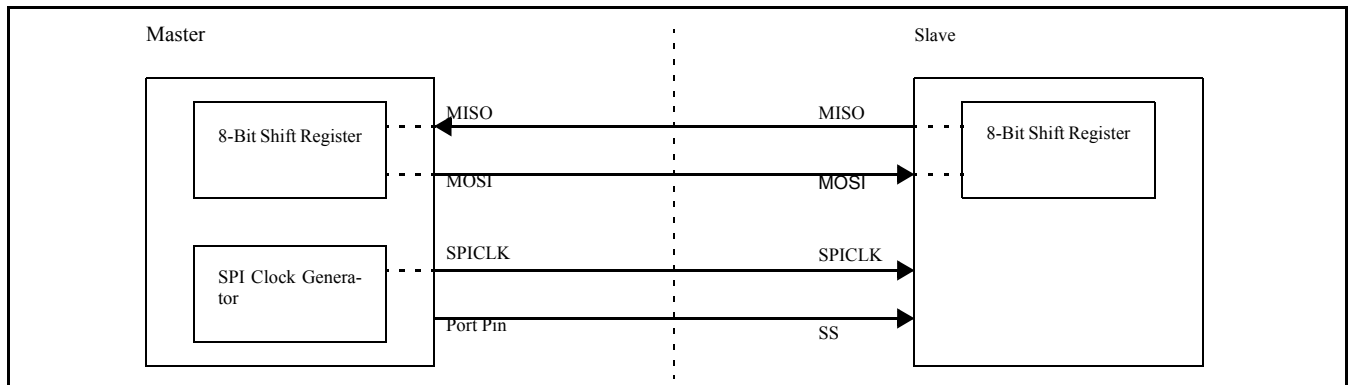
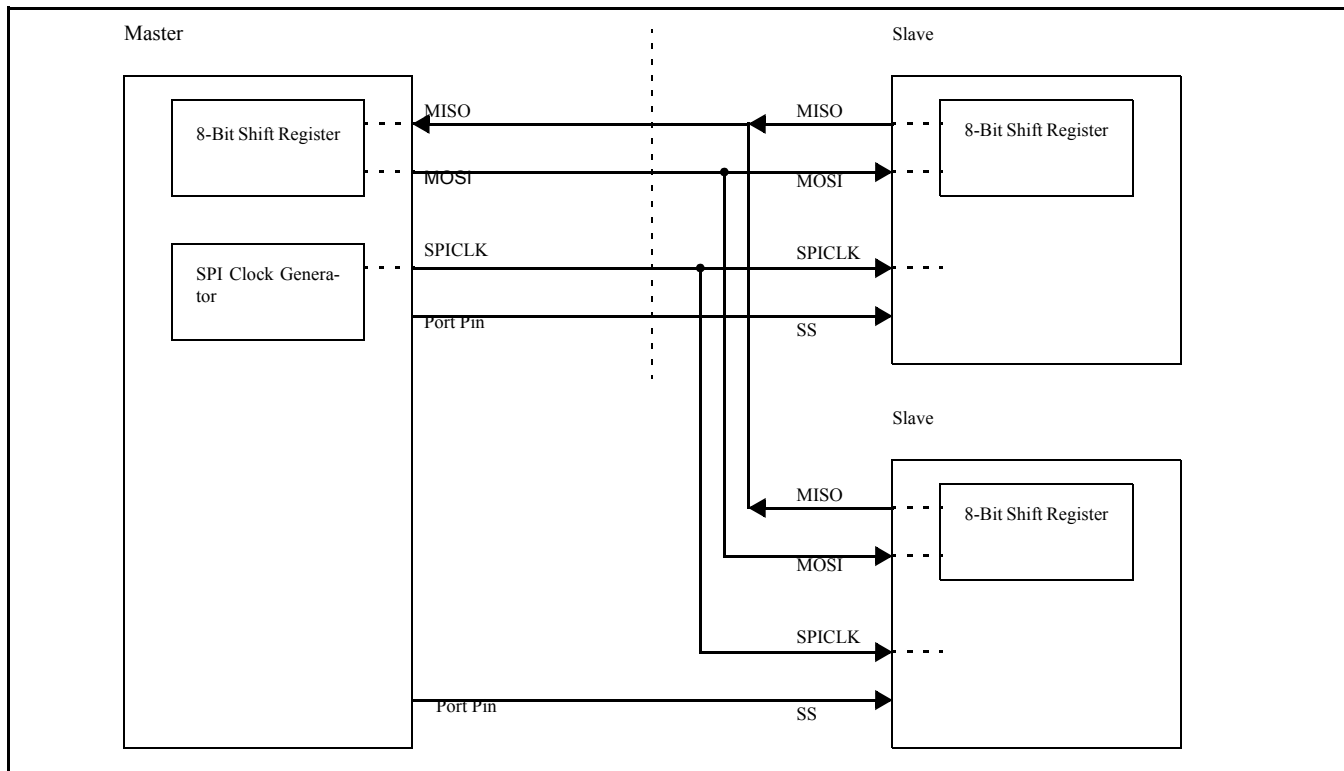

Figure 9-5: SPI single master single slave configuration
Figure 9-7: SPI single master multiple slaves configuration
Typical connections are shown in Figures 9-5 - 9-7.
- The 89LPC913 does not have the slave select pin, \overline{SS} . The SPI interface is set to Master mode and an I/O pin may be used to implement the SS function. Typical connections are shown in Figure 9-5 and Figure 9-7.
In Figure 9-5, SSIG (SPCTL.7) for the slave is '0', and \overline{SS} is used to select the slave. The SPI master can use any port pin (including P2.4/SS) to drive the SS pin.
In Figure 9-7, SSIG (SPCTL.7) bits for the slaves are '0', and the slaves are selected by the corresponding \overline{SS} signals. The SPI master can use any port pin (including P2.4/ \overline{SS}) to drive the \overline{SS} pins.